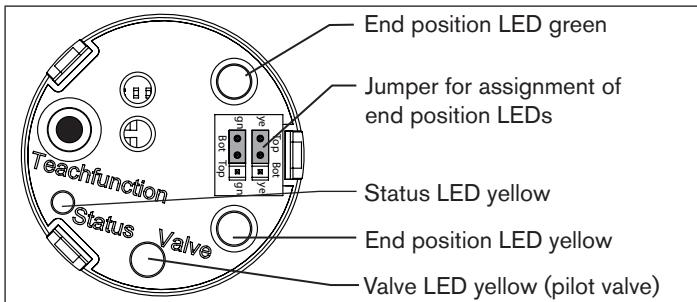

Fig. 13: Display elements 24 V DC
3) Color setting ex works. Can be set via jumper (see "Fig. 13").